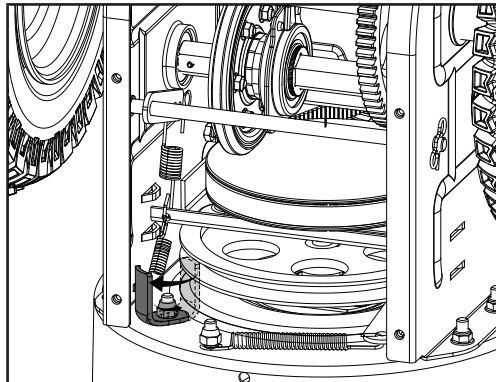

Figure 29A
- Slip the new auger drive belt into the compartment from the bottom of the snowblower placing it around the bottom of the auger drive pulley and slipping it around the front pulley on the engine. Ensure the belt is positioned between the bottom belt guard and the bottom of the auger drive pulley. You may need to remove the bolt holding the lower belt guard in place to properly seat the belt into the pulley, replace the belt guard and bolt after installing the belt into the pulley (Fig. 29A/B).